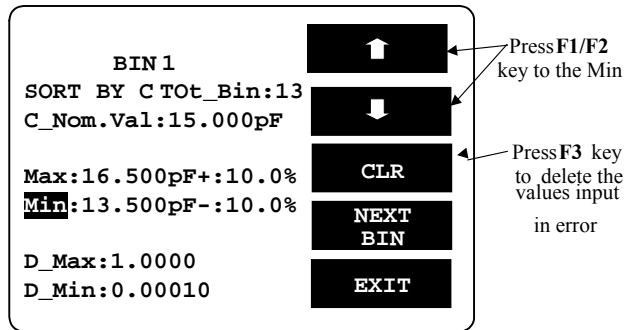

Figure 8-19
- Press **↓** key. Please refer to Figure 8-19 below.